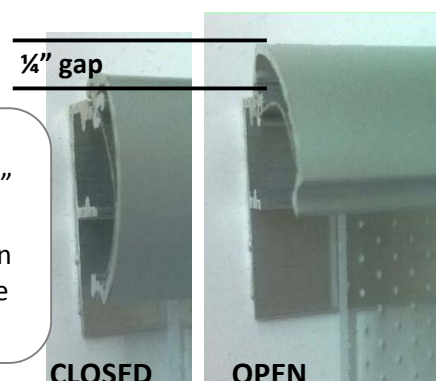

Figure 2
1. Cut molding to proper size & attach to the wall (find studs on wall for this). Insure that the screws used do not protrude but are as flat as possible(See figure 1) **Note:** if using snap frame make sure to allow a minimum ¼ inch gap above molding so the molding can open and close properly), (see figure 2).